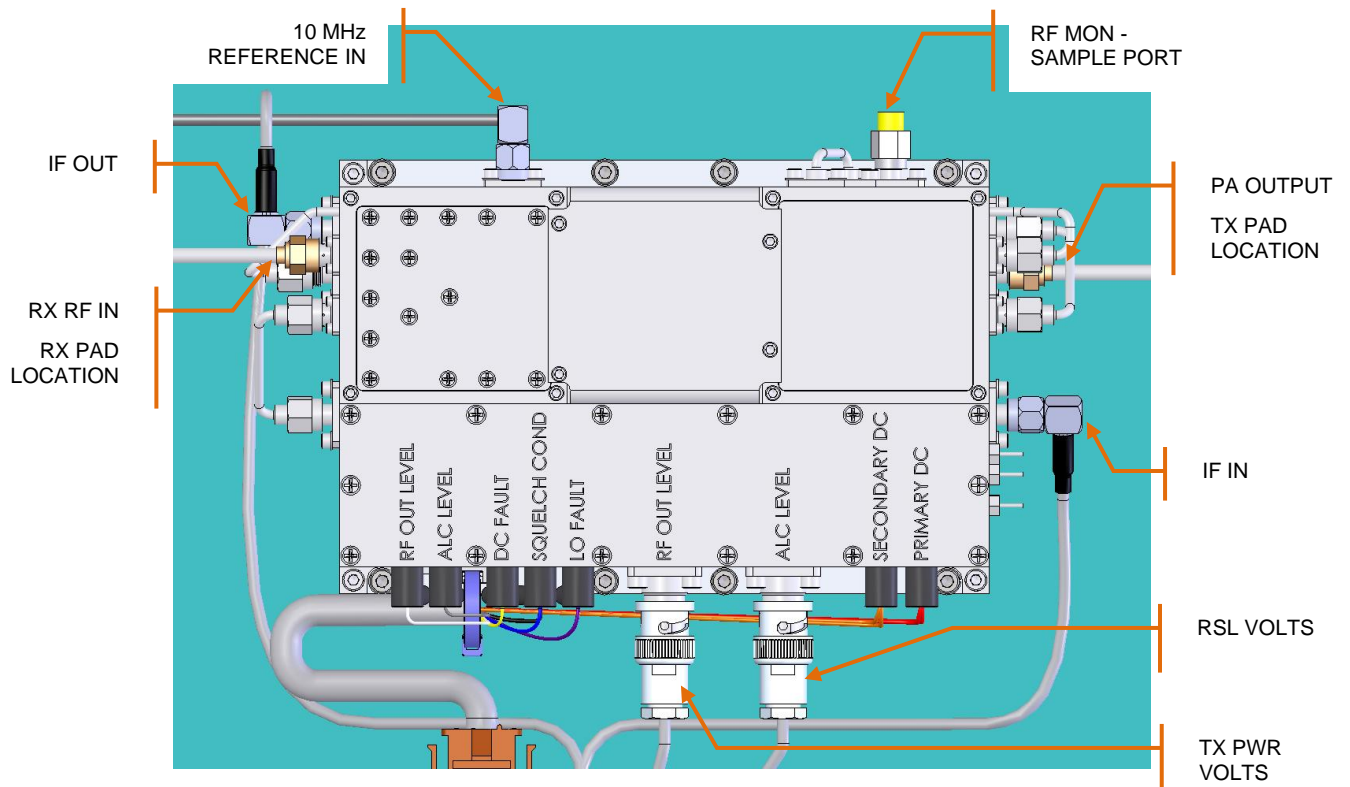

Figure 26 Heterodyne RF Module Connector Ports
- 6.2. Remove the SMA Termination and then connect the power meter to the RF MON – SAMPLE PORT on the side of Power Amplifier. This is an SMA-female connector. A right-angle adapter with a between series (e.g. SMA to N) adapter (if needed) to fit the power meter sensor are needed to access the test port. See Figure 26.
6.5. Add the Cal Loss marked near the RF MON (see Figure 26) to the power meter reading, the result is the Power Amplifier Output Power.